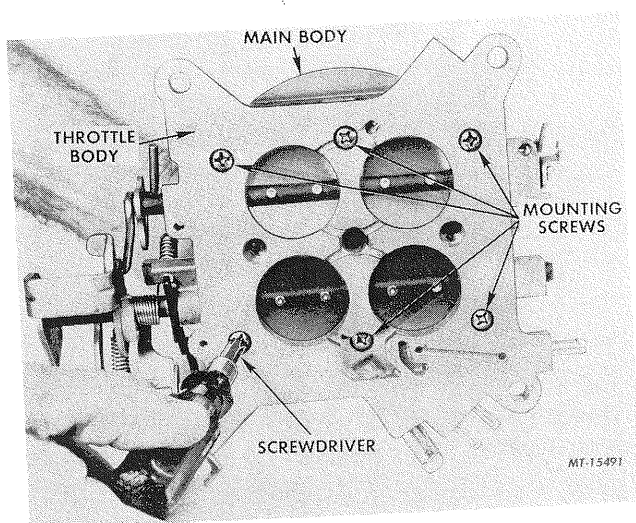

FIG. 39 Installing and Torquing Throttle Body Screws
2. Hold assembly together, invert assembly and install attaching screws. **Primary throttle bores must be on primary venturi side (choke side).** Install levers, springs and screws into throttle body. Torque attaching screws evenly in stages to 50 in.-lb. (Figure 39).